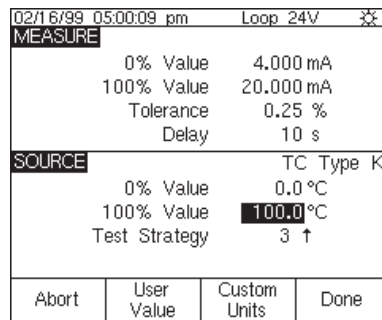

Figure 21
3. Press the **As Found** softkey and press **ENTER** to select **Instrument calibration**. Move the cursor to **Tolerance** and **ENTER** the appropriate test tolerance (0.25% in this example). Verify that the **0% Value** and **100% Value** are the proper, **nominal** operating values for the transmitter (0.0 °C and 100.0 °C in this example, Figure 21). If the Lower (0%) and Upper (100%) Range Values (LRV and URV) have been previously modified for calibration purposes, you will need to **ENTER** the nominal values. For example, if a previous calibration modified the URV to 100.2 °C, you need to manually **ENTER** the nominal value of 100.0 °C for the **100% Value**. Entering nominal zero and span values ensures that errors are calculated correctly.